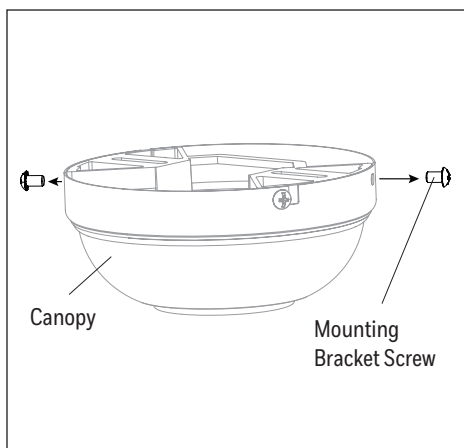

Figure 2.1
1. Loosen all four mounting bracket screws and completely remove the two screws from the round holes in the canopy. Save the screws for later. Remove the canopy from the mounting bracket (Figure 2.1).